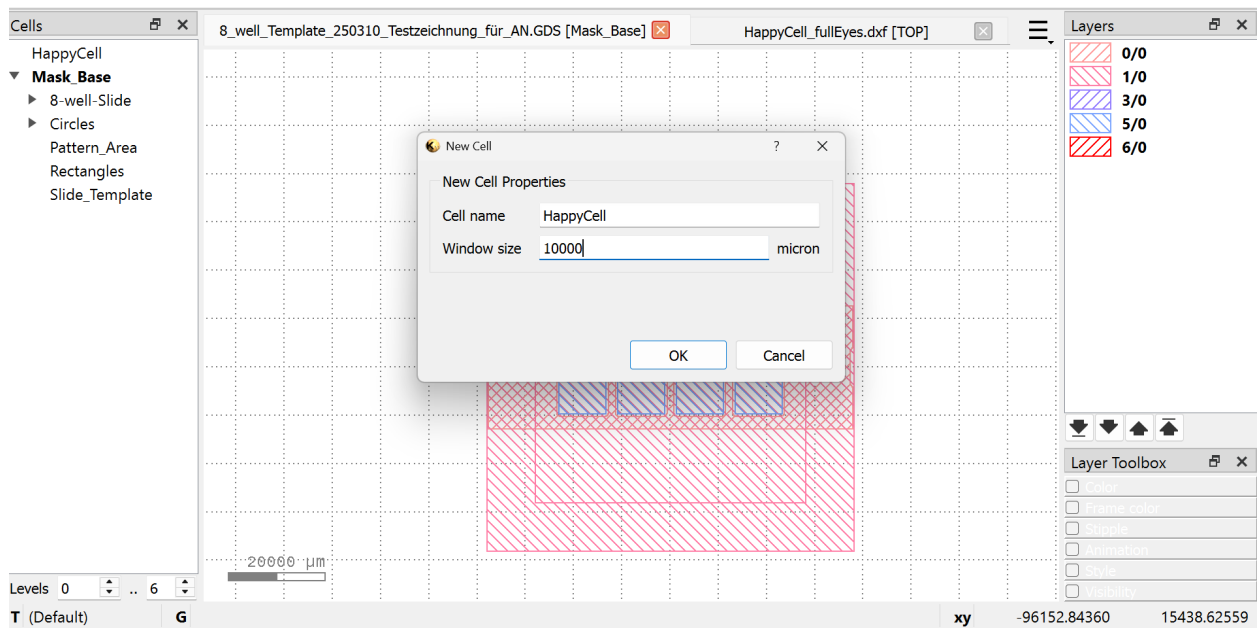

Figure 12: Creation of the new cell which contains the drawing of the imported .dxf-file.
8. Create a new cell and name it according to the drawing (see Figure 12).